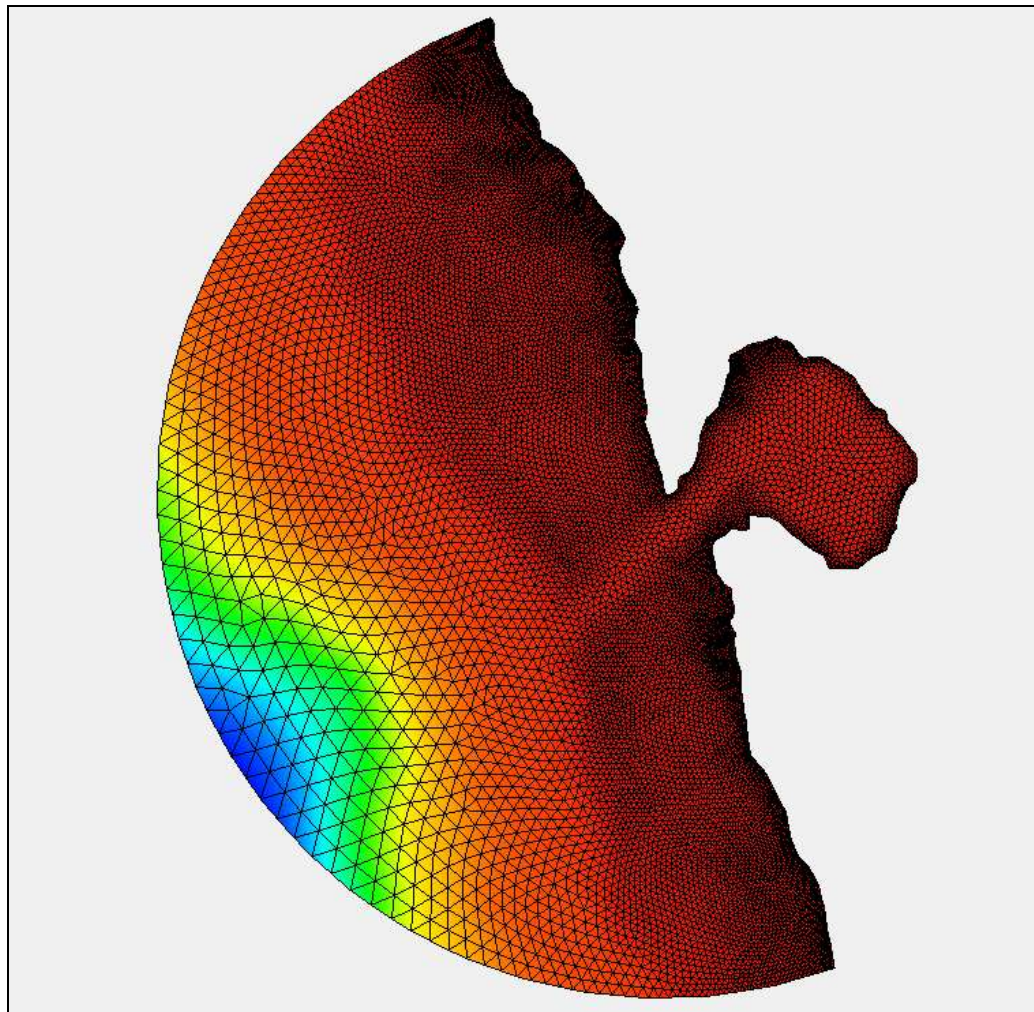

Figure 4 The contour color fill shows the increasing depth
7. Click **OK** to close the *Display Options* dialog. The display should appear as in Figure 4.